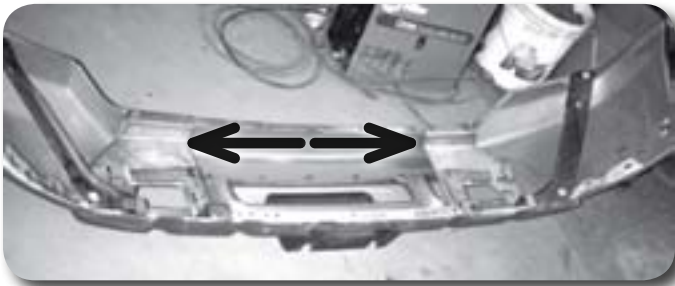

Figure 9
42. Remove the factory bumper brackets from the bumper. Attach the new brackets to the bumper using the factory hardware **Figure 9**. Torque hardware to 35 ft-lbs.